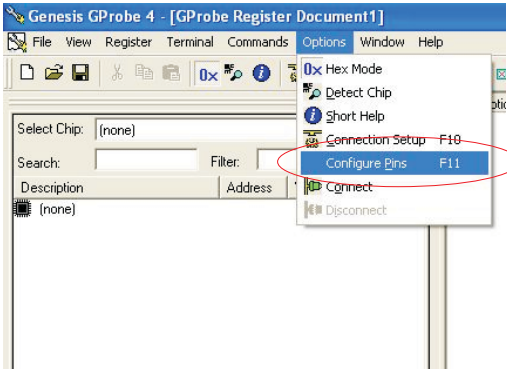

Fig.5
- 1. Double click the Gprobe.exe icon ,then appears window as shown in Fig.5
- 2. Press the options then choose configure Pin as shown in Fig.5